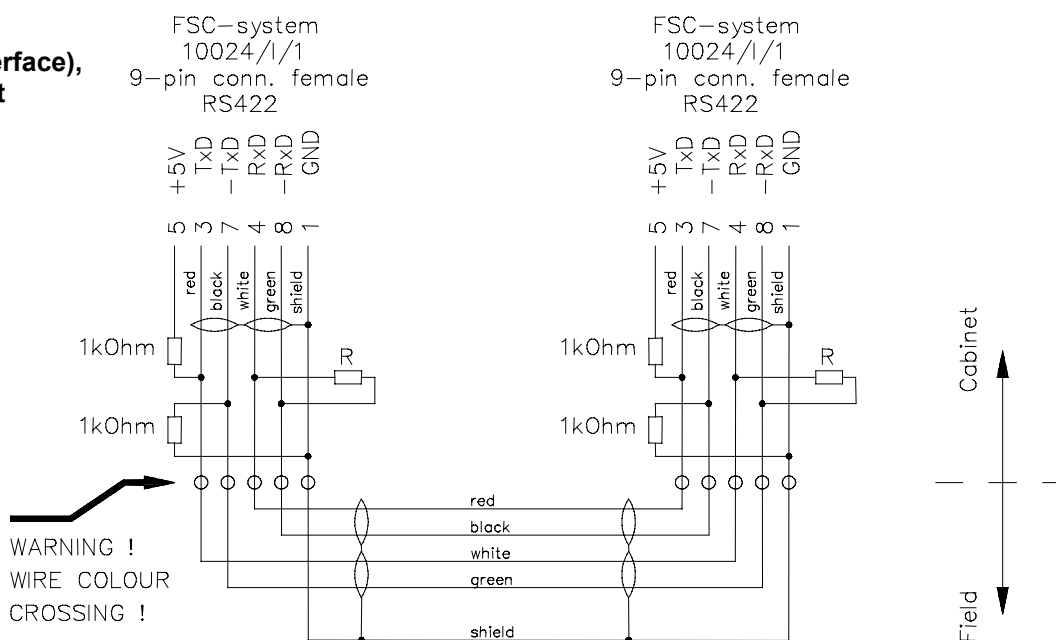

Figure 11 Connection between two FSC systems:
- Point-to-point, duplex (see Figure 11)